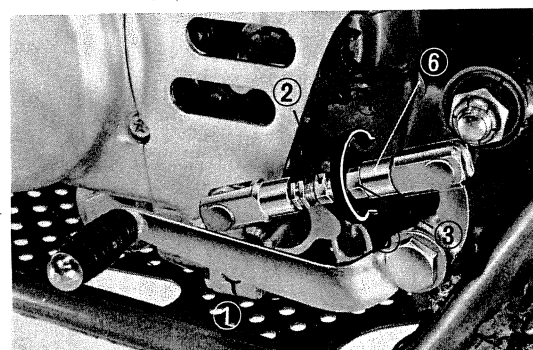

Fig. 18 ① Gear change pedal ② Lock nut (lefthand thread) ③ Adjuster ④ Raise ⑤ Lower ⑥ Lock nut
- 1) The gear change pedal can be also adjustable in height to suit the riding position of an individual rider. This adjustment is made by turning the adjuster after loosening the lock nut. After adjustment, tighten the lock nut firmly. (Fig. 18)